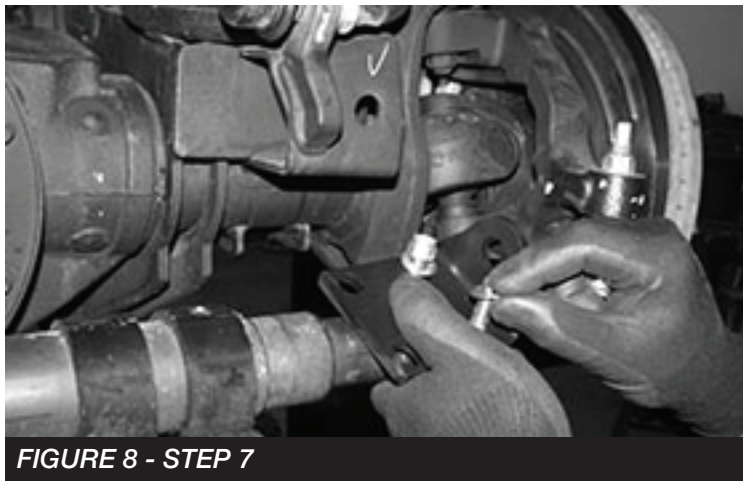

FIGURE 8 - STEP 7
7. Install the drivers side bracket, **SEE FIGURE 8** with a mount to mount measurement of 23-1/4". Torque to 40 ft-lbs